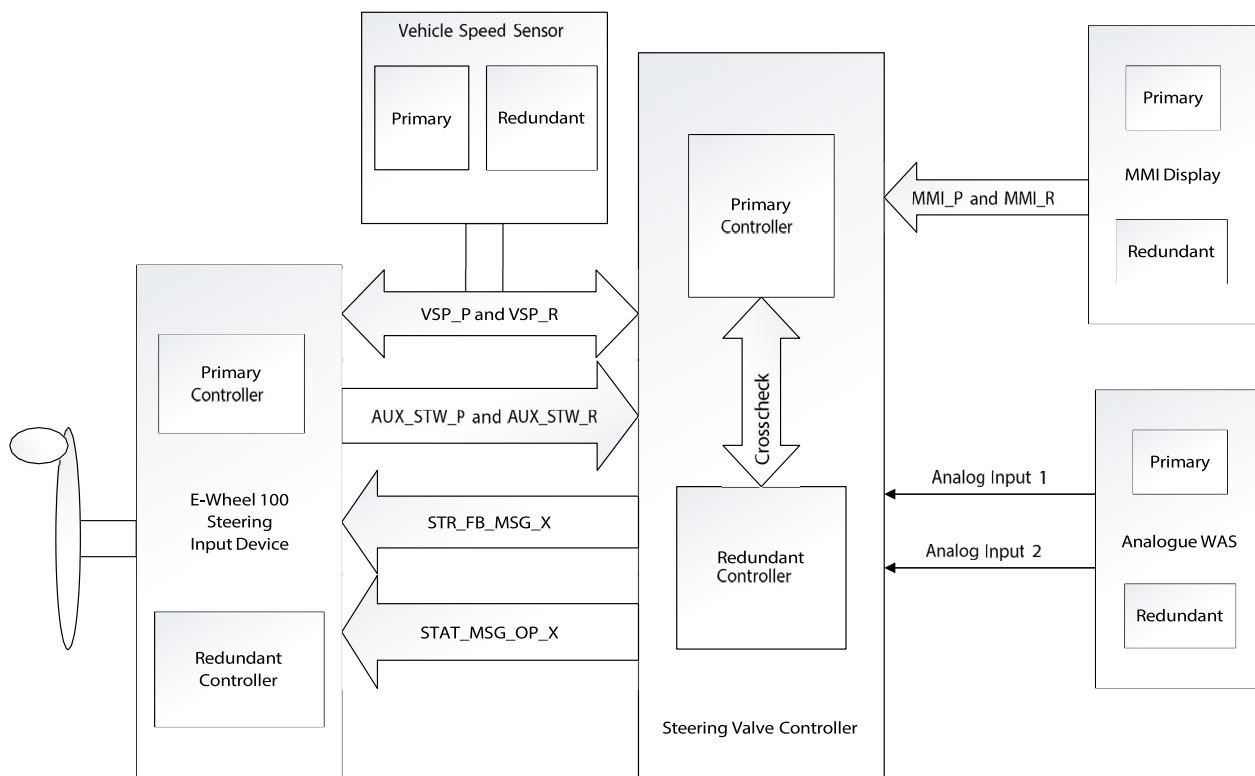
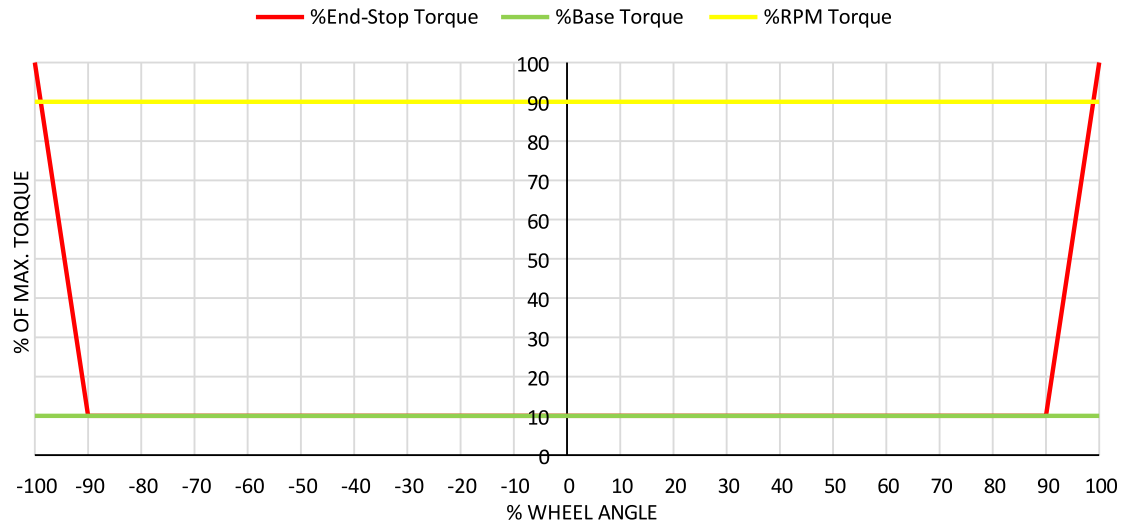
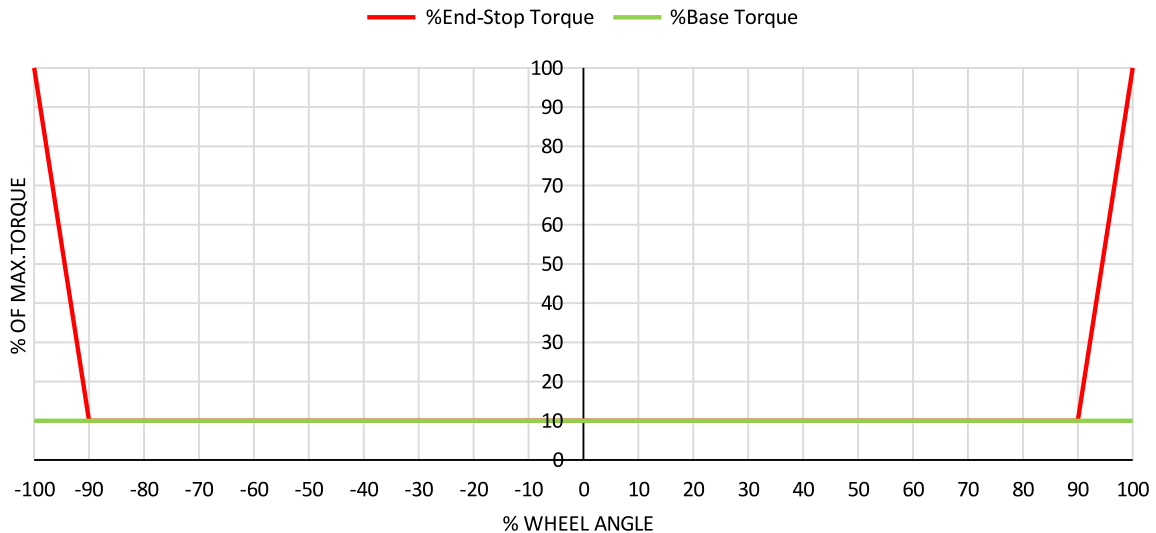

Figure 4 Block diagram for e-Wheel with steering valve controller
Figure 5 Torque Control Algorithms for 5 Nm
Figure 6 Torque Control Algorithms for 2 Nm
The operation between e-Wheel and steering controller in the steering system with the relevant messages from each component is simplified in figure 4. The primary purpose of the e-Wheel is to give steering inputs (steering angle and steering speed); whereas the steering controller defines the steering response based on the data available from all components in the steering sub-system. The messages from each component in figure 4, are per the PVED-CLS communication protocol, specified with the respective annotations (i.e. VSP_P).
The control algorithms in e-Wheel, are offered as standard variants with the torque values shown as per figure 5 and figure 6.
In the above figures 5 and 6 respectively,
- Figure 5 represents for e-Wheel with 5 Nm as 100 % of the maximum operating torque and figure 6 represents for e-Wheel with 2 Nm as 100 % of the maximum operating torque.
depending upon the allowable RPM at a corresponding steering lock to lock ratio from steering controller. Figure 5 shows, the maximum RPM torque for 5Nm is defined for 90 % of the maximum operating torque; whereas figure 6 shows RPM torque for 2Nm is defined for 60 % of the maximum operating torque.
Wheel angle sensors close the feedback loop with the steering controller, ensuring the vehicle wheels match steering commands. During operation, the steering controller transmits the estimated wheel angle values as a feedback message over the CAN bus to the e-Wheel, see Figure 4. Based on this message, the e-Wheel detects the wheel angle values and determines the force feedback torque. As shown in figures 5 and 6, the End-Stop control algorithm increases linearly from 90 % to 100 % wheel angle and provides maximum operating torque (torque of 5Nm or 2Nm based on the chosen e-Wheel variant) at 100 % wheel angle. Thus, the operator experiences the End- Stop torque feedback when the vehicle wheels reach the maximum wheel angle limits. When the operator changes direction to steer away from the end stop towards neutral, the torque drops back to the base torque.
The background torque for normal steering, excluding end-stop conditions, is the base torque control. This torque is smooth and persistent throughout the middle of the steering wheel angle range, as shown in figures 5 and 6, as 10 % of the maximum operating torque.
In case of CAN message errors, power/ground short circuits, or other failure modes, the e-Wheel will provide relevant error codes in its output message which will trigger the steering controller to a safe state mode. In these error conditions the e-Wheel will provide a warning feedback signal to the operator by producing a vibrational sensation through the steering wheel called Warning Torque. Warning torque will also be present when the Operational Status Message (STAT_MSG_OP_X from figure 4) indicates an operation state where the e-Wheel device is not allowed to be active. (The e-Wheel will be set up as either an STW or AUX device – see the PVED-CLS User Manual for instruction on how to select the e-Wheel device type in the PVED-CLS parameters).